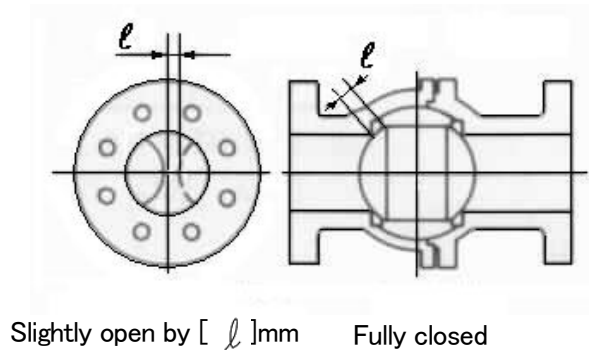
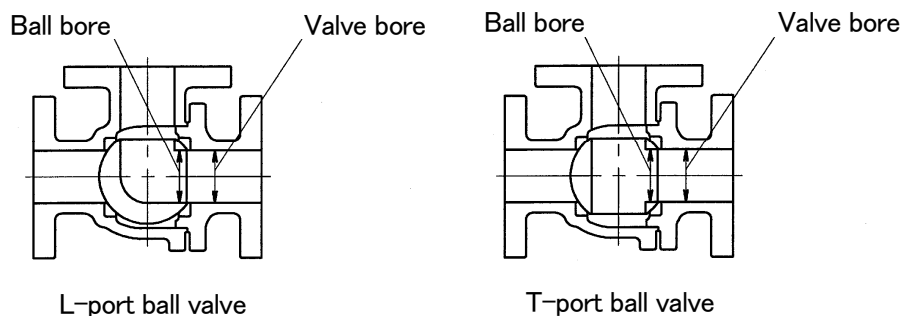

Fig. 28
Fig. 29
- ① An actuator must be mounted on a butterfly valve not installed on pipes. If the valve has been installed on pipes, dismantle it before mounting an actuator.
- ② A butterfly valve must be fully closed before mounting an actuator, referring to Fig. 29 and Table 6 provided in Section 13 of this manual. Check that the valve is fully closed by visual inspection of the position of a valve disc.
- ③ Dismantle a manual valve operator such as a gear or a lever from the stem of a valve and prepare an actuator mounting kit specified in either Appendix 3, 4, 5 or 6.
As the first step, manually close a valve so that a ball of a 2-way ball valve or a disc of a butterfly valve may be positioned as shown in Fig.28 or Fig.29 respectively. For 3-way ball valves, however, manually move balls clockwise, viewing from the top. If L-port valves have been set to FORM 1, this will reset the flow path to FORM 2. In the case of T-port valves, this will reset the flow paths from FORM 1 to 2, FORM 2 to 3, FORM 3 to 4 and FORM 4 to 1. What you must do is, therefore, simply to turn 3-way ball valves clockwise manually, viewing from the top, before making adjustment of the closing position.
When close 2-way ball valves, the dimension [l] mm must be manually adjusted to satisfy the length specified in Table 5. This results in setting valves slightly open from the fully closed position. The dimension [l] mm is virtually the width of contact of the ball seat to the ball surface of a fully closed valve. In case of 3-way ball valves, the ball position must be manually adjusted so that the ball bore and the valve bore may become concentric each other. Make this adjustment by observing the valve interior through the right-hand flanged end opening in Fig. 29.